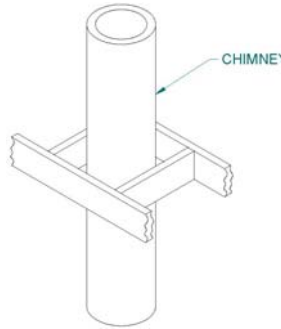

Figure 29
1. Cut and frame the holes in the ceiling, floor and roof where the chimney will pass (see **Figure 29**). Use a plumb bob to line up the center of the holes. Make sure that the size of the floor and ceiling holes are in accordance with the chimney manufacturer's instructions.